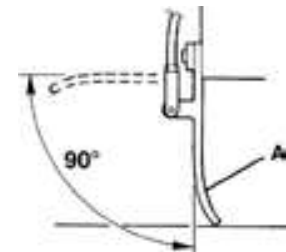

Figure 15
- 5) Press the front skirt lifting pedal (3) and check that the front skirt (A, fig. 15) turns upward for about 90° (as shown in the figure); then release the pedal and check that the skirt does not remain in an intermediate position but returns to its initial position. If necessary, for the front skirt control cable adjustment or replacement.